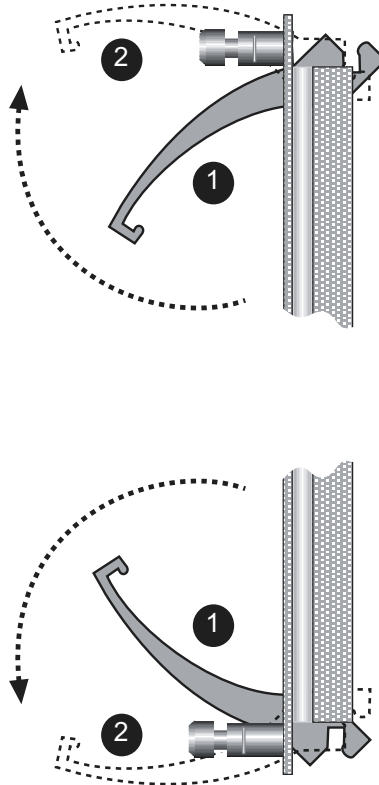

Figure 3-7 Positioning the ejectors
- 6 Make sure that the ejectors are in position 1, as shown in Figure 3-7.
- 9 Insert the module into the backplane by simultaneously depressing both ejectors (as shown in Figure 3-7) and exerting forward pressure on the module.
- 4 Raise the ejector handles located at the top and bottom of the module so that they are in position 2, as shown in Figure 3-7.